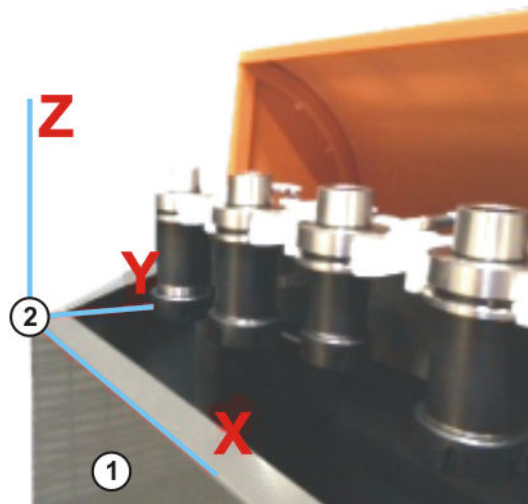

Fig. 8-6: Tool rack base
2. The figure (>>> *Fig. 8-6*) illustrates the base of the tool rack. The Y plane must be horizontal and not aligned with the edge of the tool rack.